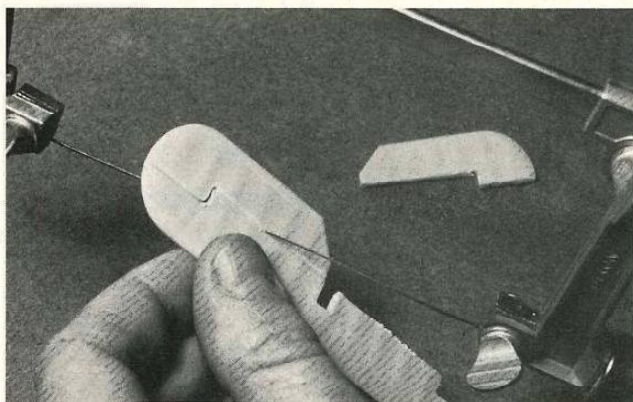

Fig. 5. After he had filed and sanded the assembly to an airfoil shape, Roscoe cut the elevators from the horizontal stabilizer with a jeweler's saw.
**Elevators and struts.** Next, I filed the blunt trailing edges of the horizontal stabilizer to an airfoil shape and removed the elevators with a jeweler's saw, Fig. 5. I later remounted the elevators in their down position, as they appear in most photos.